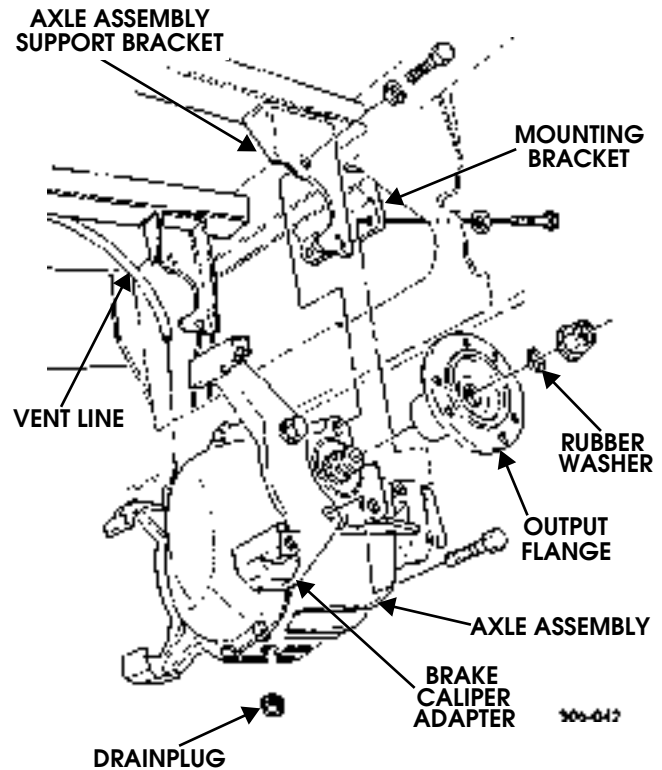

Figure 9-56: Rear Axle Assembly Mounting
2. Remove drainplug from axle assembly. Allow oil to drain and install drainplug (Figure 9-56).
5. Remove two bolts and washers securing axle assembly to mounting bracket (Figure 9-56).